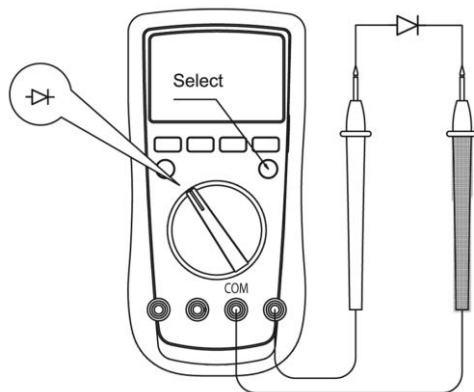

figure 6
E. Testing Diodes (see figure 6)